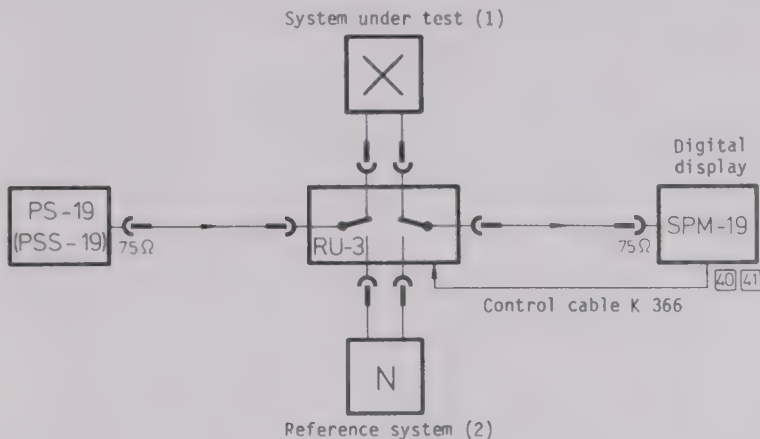

Figure 4-19 Level difference measurement
In the measuring arrangement of Fig. 4-19 the generator signal is fed to the relay changeover switch RU-3, BN 323/02. This changeover switch contains a digital interface connected to level meter SPM-19 by a control cable, K 366 (or K 137). Depending on the test program chosen, the level at the object under test (1) or the reference (2) is measured digitally, and stored. After the level meter has automatically switched over the RU-3, the stored level is compared with the level in the other measurement branch.